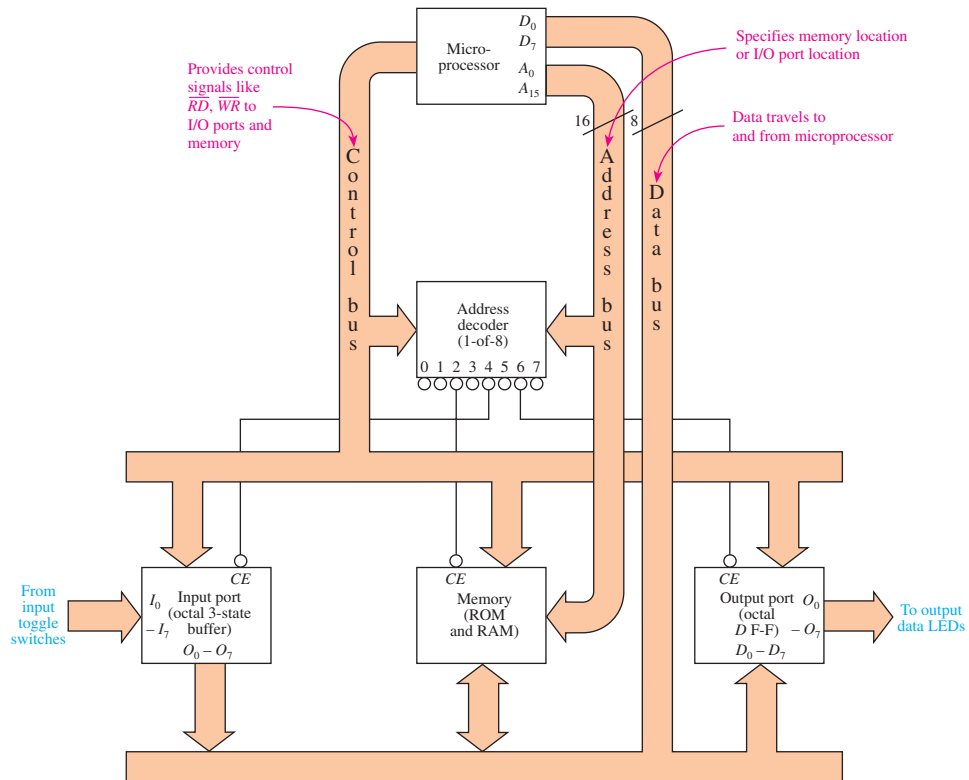

Figure 17-1 Example of a microprocessor-based system used for simple I/O operations.
Figure 17-1 shows a **microprocessor** with the necessary **support circuitry** to perform basic input and output functions. We use this figure to illustrate how the microprocessor acts like a general-purpose device, driven by software, to perform a specific task related to the input data switches and output data LEDs. First, let's discuss the components of the system.
17-5. The input port in Figure 17-1 must have *three-state* outputs so that its outputs are floating whenever any other IC is writing data to the data bus. True or false?
17-6. What would be the consequence of using an octal buffer for the output port in Figure 17-1 instead of an octal *D* flip-flop?
As a brief introduction to microprocessor software, let's refer back to Figure 17-1 and learn the statements required to perform some basic I/O operations. To route the data from the input switches to the output LEDs, the data from the input port must first be read into the microprocessor before they can be sent to the output port. The microprocessor has an 8-bit internal register called the **accumulator** that can be used for this purpose.
2. The timing and control unit issue a LOW pulse on the \overline{RD} line. This pulse travels the control bus to the RAM in Figure 17-1 and causes the contents at location $2000H$ to be put onto the external data bus. RAM ($2000H$) has the machine code $3AH$, which travels across the internal data bus to the instruction register.